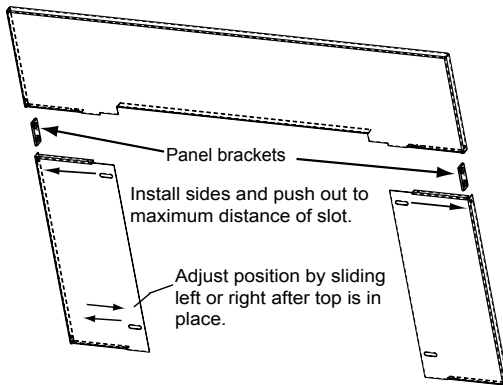

Figure 12A
1. Install the 2 side panels on the insert first, using the cage nuts already attached to the stove, pushing panels away from the insert to the maximum distance of the slot. **See Figure 12A.** (Note: The sides are interchangeable).